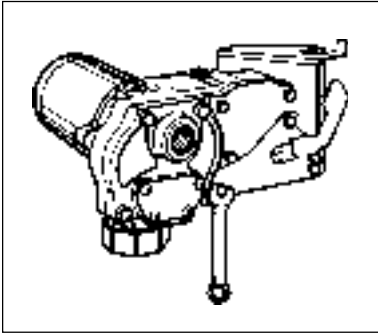

Figure 17
2. Remove the switch coverplate from the pump housing. (Figure 17)